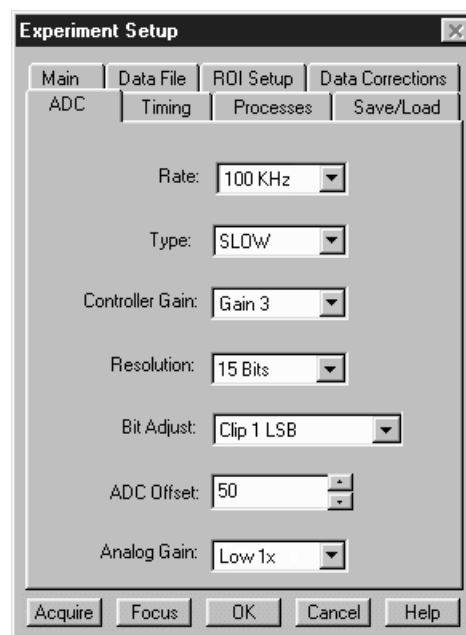

Figure 46. Generic ADC tab page
5. On the **ADC** tab page (Figure 46), set the parameters as they apply to your particular system. Parameters that might be listed follow: